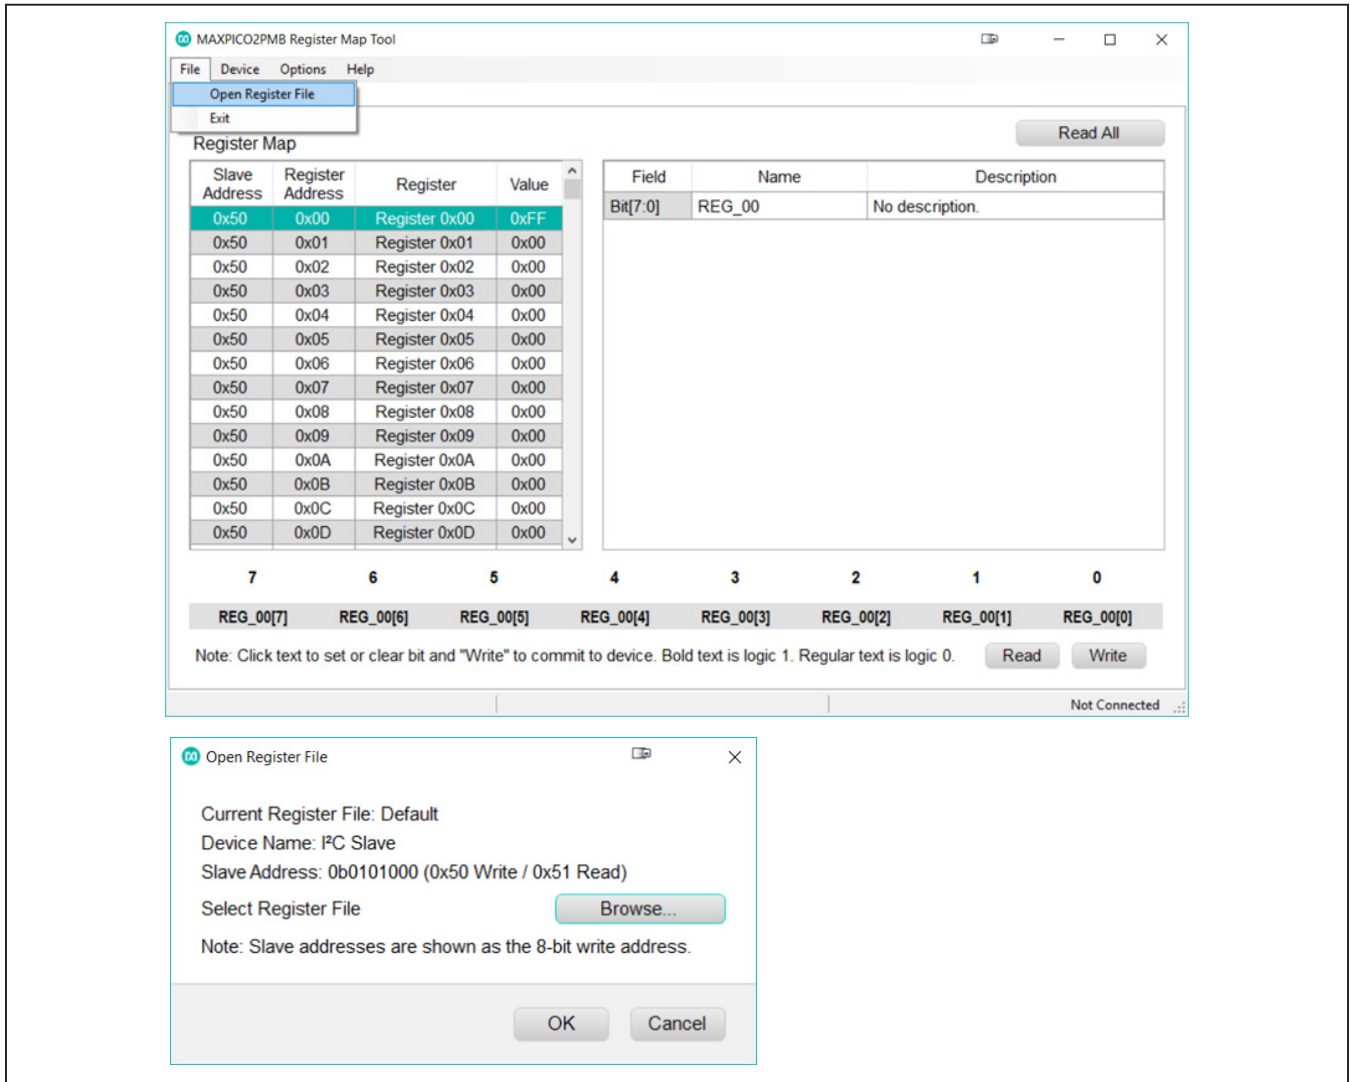

Figure 2. Configuring the EV Kit Tool with MAXPICO2PMB Adapter Board
- 8) On the computer, open the MAXPICO2PMB Register Map Tool. The status bar on the bottom of the MAXPICO2PMB Register Map Tool software shows **Not Connected** as shown in Figure 2.